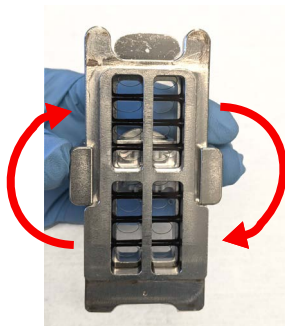

Figure 12 Rotation of the final assembled chamber
- 4 Rotate the final assembled chamber in a *vertical orientation*, clockwise, 2 to 3 times to wet the gaskets (see **Figure 12**).